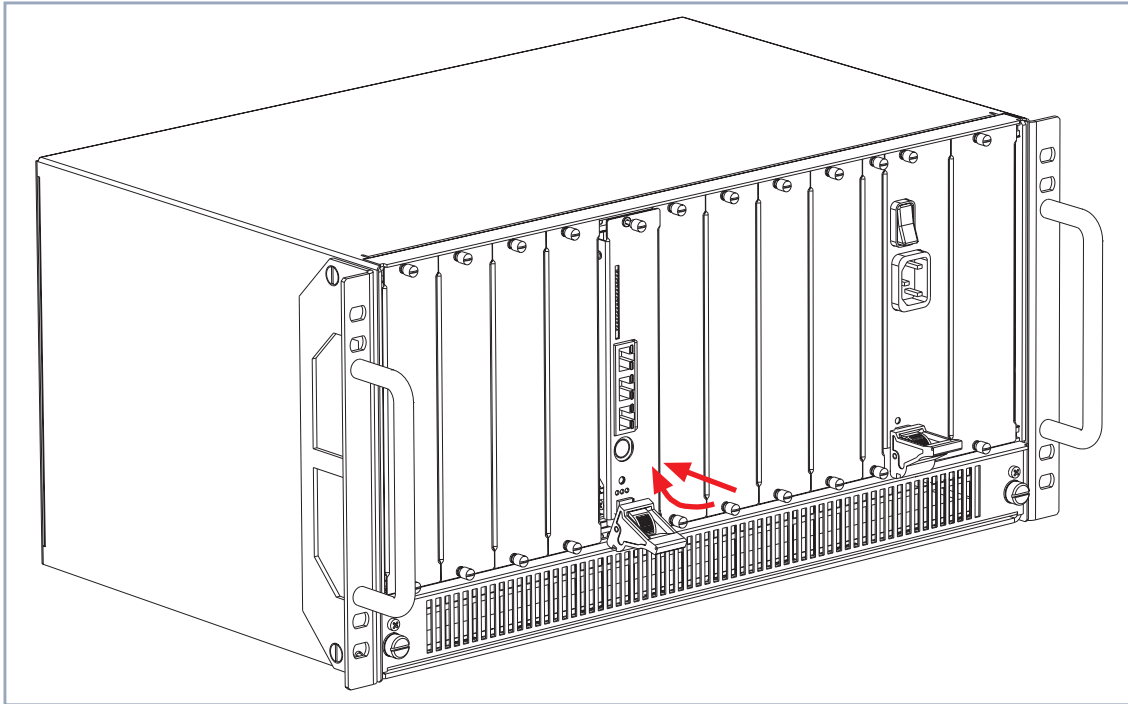

Figure 4-5: Installing the expansion card
- Once the expansion card reaches the connector, lift the injector/ejector handle until it is fixed to the cross section of the case front (see figure 4-5, page 38). If the injector/ejector handle switch pops up, the card is plugged in correctly.
- Once the expansion card reaches the connector, lift the injector/ejector handle until it is fixed to the cross section of the case front (see figure 4-5, page 38).